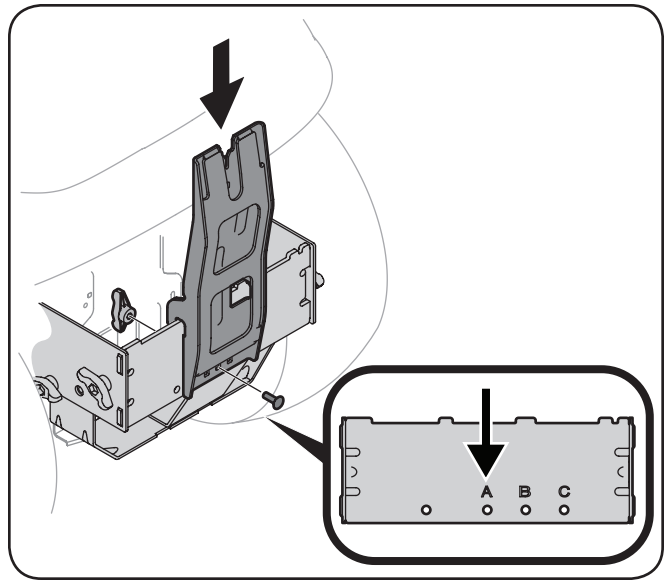

Figure 4-5
4. Install the bagger upright mounting bracket onto the mounting assembly of the tractor by hooking it over the hitch plate, aligning the center hole on the upright bracket with the hole on the cross mount bracket which corresponds with the deck size of your tractor. See Figure 4-5.
5. Secure the upright mounting bracket to the mounting assembly using a (710-0276) carriage bolt and a (720-04122) wing knob from hardware pack 689-00328A. Refer to Figure 4-5.